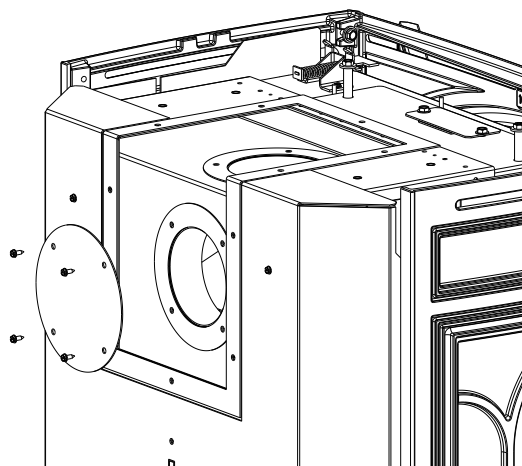

Figure 2.4. Remove cover plate from rear outlet.
2. Remove four screws on the rear exhaust cover plate and re-install the cover plate over the top outlet. Figs. 2.4 and 2.5.